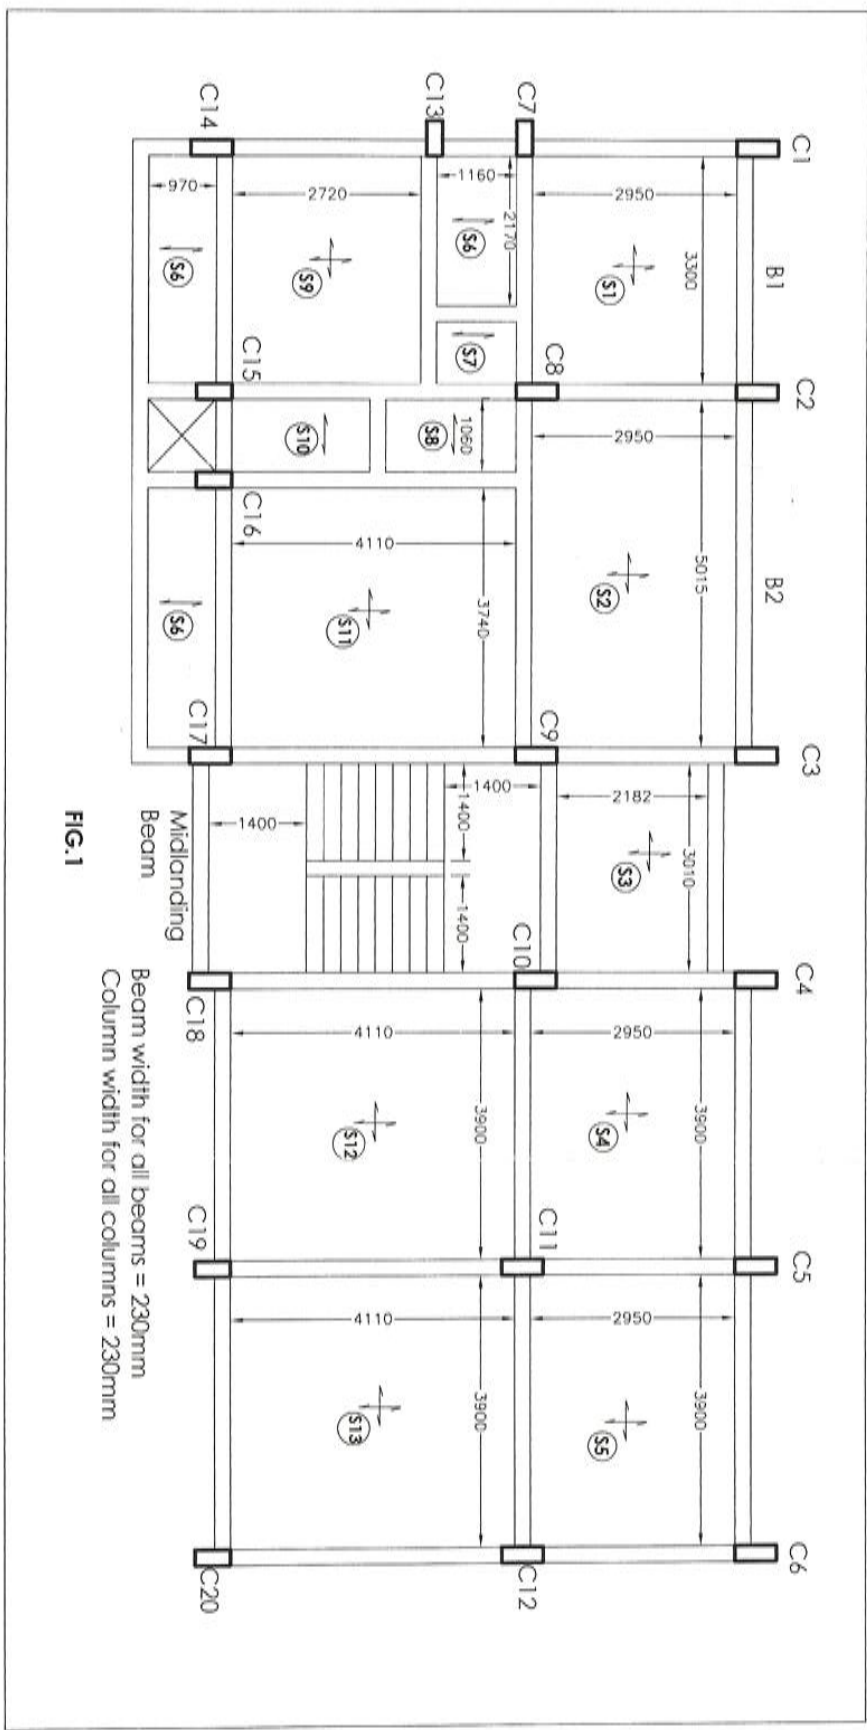

FIG.1
- Q. 3 Design the slab S5 and S13 only for flexure by LSM. Refer the structural plan given in fig.1. Consider live load=3kN/m², Floor finish=1.5kN/m² Use M20 grade of concrete and Fe 415 grade of steel. Draw neat sketches showing details of reinforcement. 25
- Q. 4 Design dog legged staircase from plinth level to the first floor level as shown in fig.1 for the following data: 25
- Q. 5 A continuous R.C.C. floor beam B1-B2(Refer Fig.1) is simply supported at columns C1,C3 and continuous through column C2. Consider live load on slab 3kN/m^2 and floor finish 1.5kN/m^2 . Assume slab thickness 130mm for load calculation. Show detailed load calculations and determine support moment maximum span moments for both beams, using 20% redistribution of moments. Draw bending moment diagram and design the beam only for flexure. Draw longitudinal section showing all details.
- Q. 7 Design column C11 as axially loaded short column for G+2 building with isolated trapezoidal footing for the following data. Refer fig.1 25